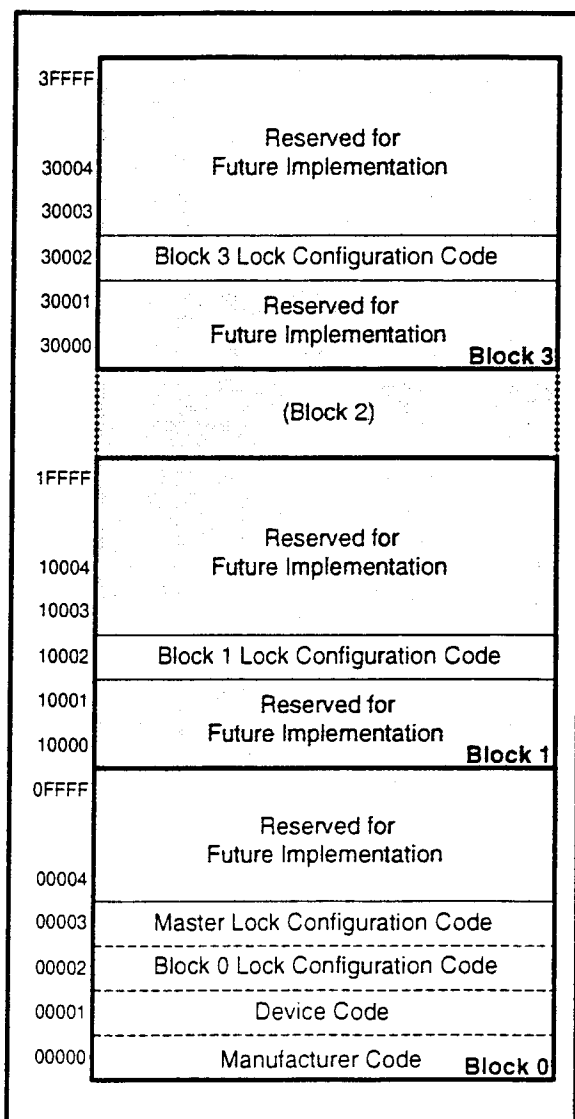

Figure 6. Device Identifier Code Memory Map
The read identifier codes operation outputs the manufacturer code, device code, block lock configuration codes for each block, and the master lock configuration code (see Figure 6). Using the manufacturer and device codes, the system CPU can automatically match the device with its proper algorithms. The block lock and master lock configuration codes identify locked and unlocked blocks and master lock-bit setting.
IA=Identifier Code Address: see Figure 6.
The identifier code operation is initiated by writing the Read Identifier Codes command. Following the command write, read cycles from addresses shown in Figure 6 retrieve the manufacturer, device, block lock configuration and master lock configuration codes (see Table 5 for identifier code values). To terminate the operation, write another valid command. Like the Read Array command, the Read Identifier Codes command functions independently of the V_{PP} voltage and RP# can be V_{IH} or V_{HH} . Following the Read Identifier Codes command, the following information can be read:
1. X selects the specific block lock configuration code to be read. See Figure 6 for the device identifier code memory map.